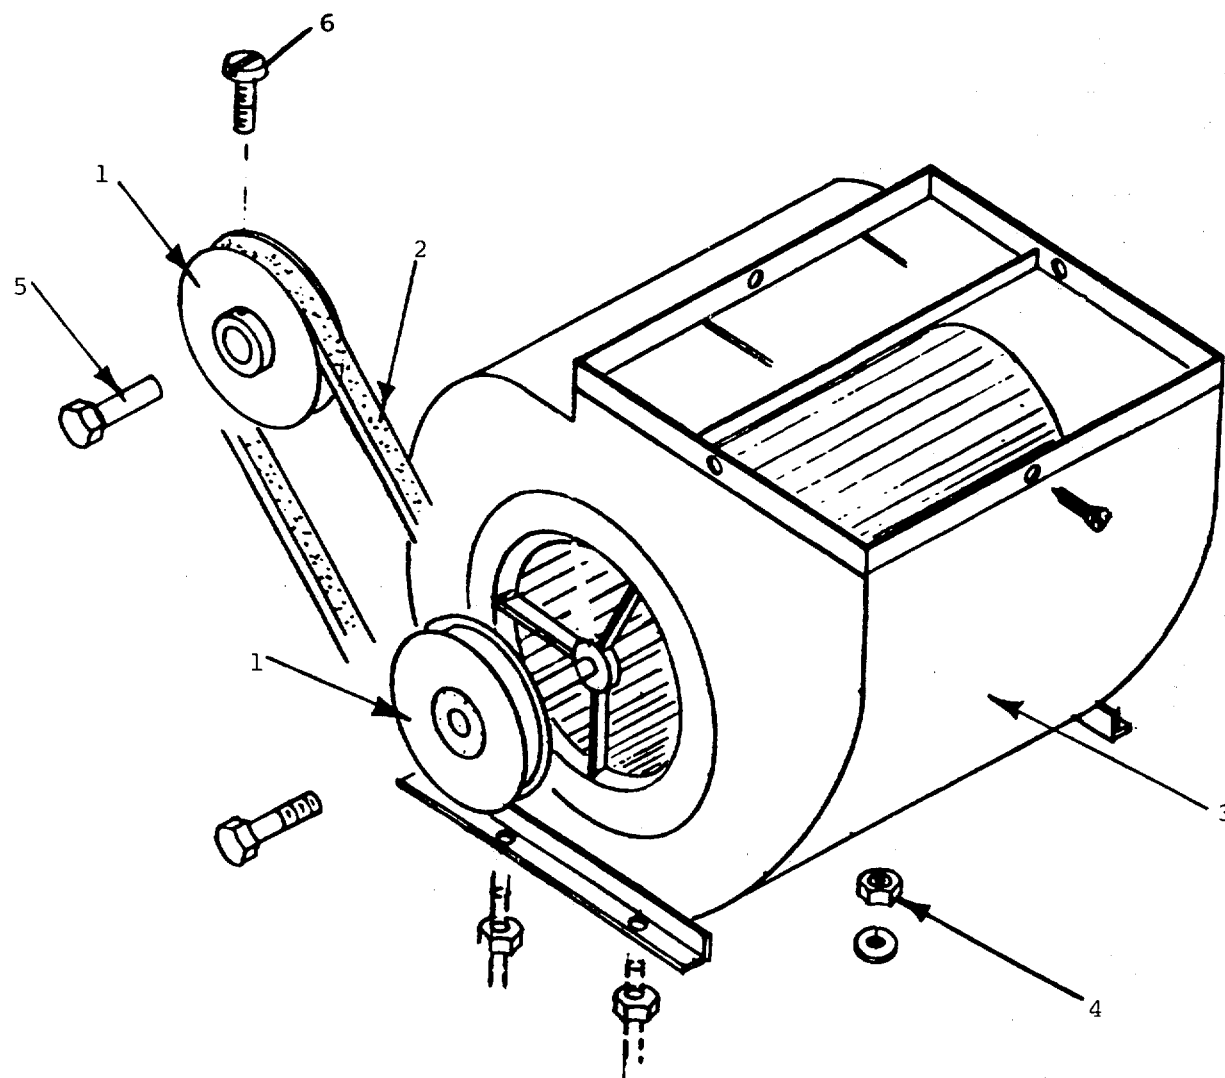

Figure 4-49. Squirrel Cage Fan Assembly
**INSPECT**                      (Figure 4-49.)